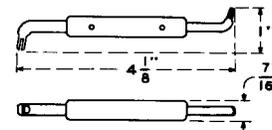

Fig. 16—466A Adjuster Tool
2.16 **466A:** The 466A tool (Fig. 16) is a spring adjuster intended for use in adjusting contact springs on hand set mountings, desk stands, station keys, and other station apparatus. The 466A tool is used for adjusting contact springs and other parts of coin collectors.